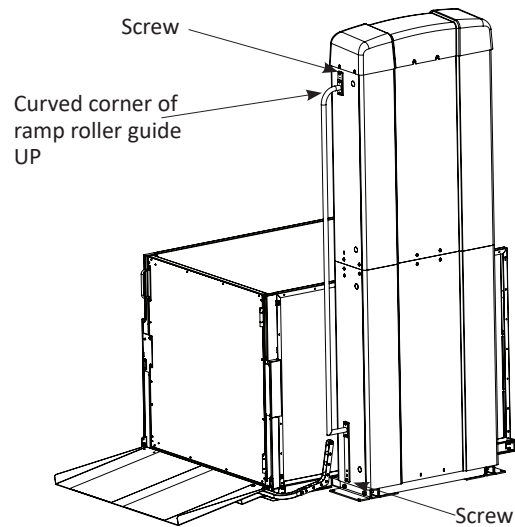

Figure 4-8
4. To install the ramp roller guide, remove the inside top and bottom side panel screws. *See Figure 4-8.*